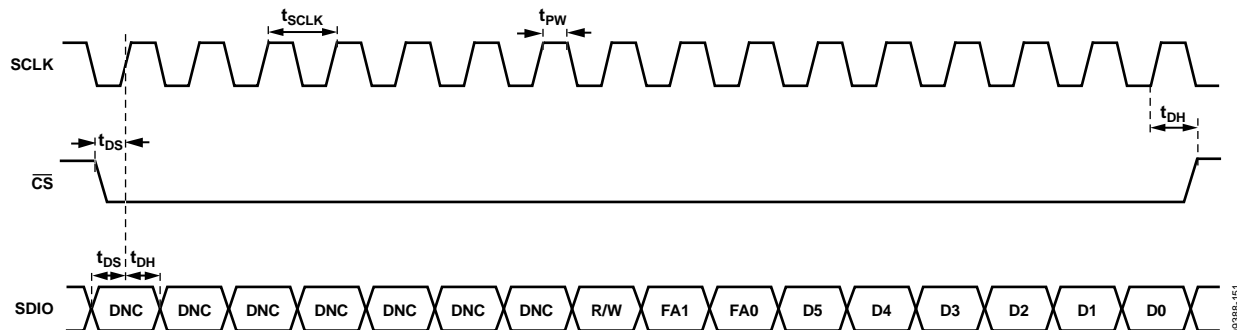

Figure 51. SPI Interface Read/Write Mode Timing Diagram
To write to the ADL5201, refer to the timing shown in Figure 51. The write mode uses a 16-bit serial word on the SDIO pin. The R/W bit of the word must be low to write Bits[D5:D0], which are the binary weighted codes for the attenuation level (0 = minimum attenuation, 63 = maximum attenuation). The FA0 and FA1 bits control the fast attack step size. The DNC bits are nonfunctional, do not care bits.
1. Set the R/W bit high using a 16-bit word and the timing shown in Figure 51. All other bits are ignored when the R/W bit is high.
2. The SDIO is used as an output during the next sequence. The written pattern is serially clocked out on SDIO using 16 clocks and the timing shown in Figure 51. The R/W bit automatically returns low to the write state following the read sequence.